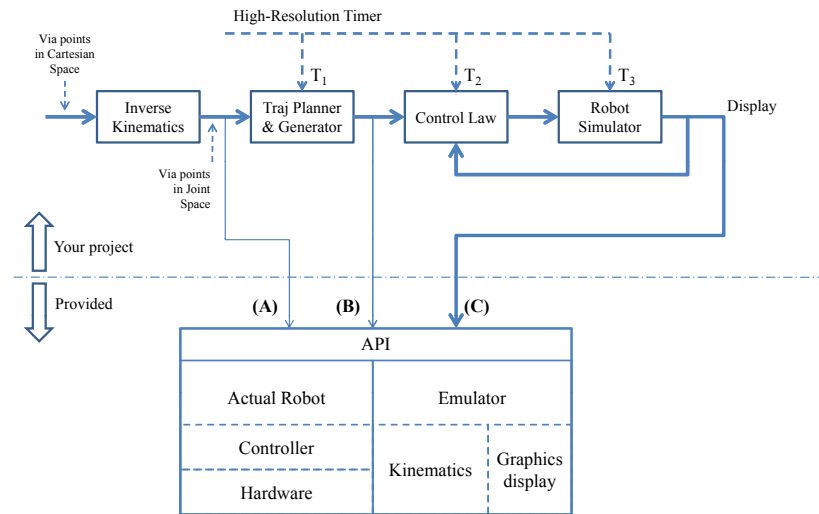

Figure 3: Block diagram of your robot programming system: ROBSIM
Integrate the above modules into a robot programming system. See Figure 3 for a block diagram of your overall system.
Hardware/emulator APIs. As shown in Figure 3, you will be using different functions to “drive” the hardware/emulator in different demos (i.e., (A), (B) and (C)). Do make sure you use the appropriate move/display command.
1. *MoveToConfiguration(conf)* for (A), to move the robot to a given configuration. It will use maximum velocity and acceleration for the motion. This function is for both hardware and emulator. **You must use this function for driving the robot in Demo 1.**
2. *MoveWithConfVelAcc(conf, vel, acc)* for (B), to move the robot such that it moves with desired velocity (vel) and acceleration (acc). This function is for both hardware and emulator. **You must use this function for driving the robot in Demo 2.** Be aware that in current implementation of this function, due to the limitation of hardware programming interface provided by the manufacturer, only velocity (vel) argument is used. Because of this simplification, there may be a slight drift at the end of the trajectory. But in your own controller, you should take all configuration, velocity and acceleration into consideration.
3. *DisplayConfiguration(conf)* for (C), simply display the robot under the given configuration. This function is for emulator only. **You must use this function for driving the robot in Demo 3.**
Please note that you must use the command corresponding to the letter at the output of the module as shown in Figure 3 to move the robot - real robot or the virtualrobot (emulator). In above functions, the arguments used for configuration/velocity/acceleration are double arrays of size 4, corresponding to 4 joints. Please read the provided header file *ensc-488.h* for more details. Pay attention to units used for arguments. For revolute joints, they accept *degree* for joint value, *degree/s* for velocity, and *degree/s²* for acceleration; for prismatic joints, they accept *mm*, *mm/s* and *mm/s²* respectively.